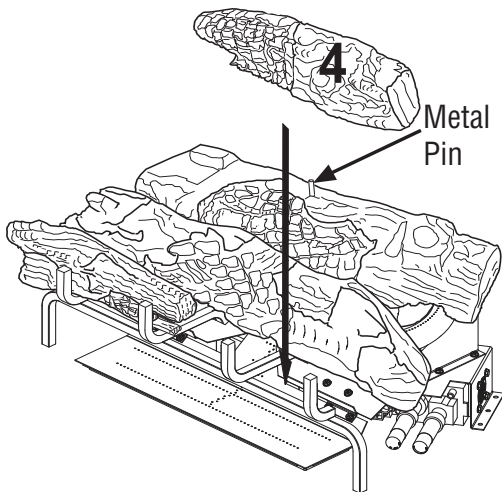

Figure 31 - Installing Log # 4
4. Place the front right log (#4) onto the base assembly between the middle log and the grate. The back of the front right log will rest against the front of the middle log. The notch in the end of the front right log will fit around the grate bar. See **Figure 31, Page 20**.